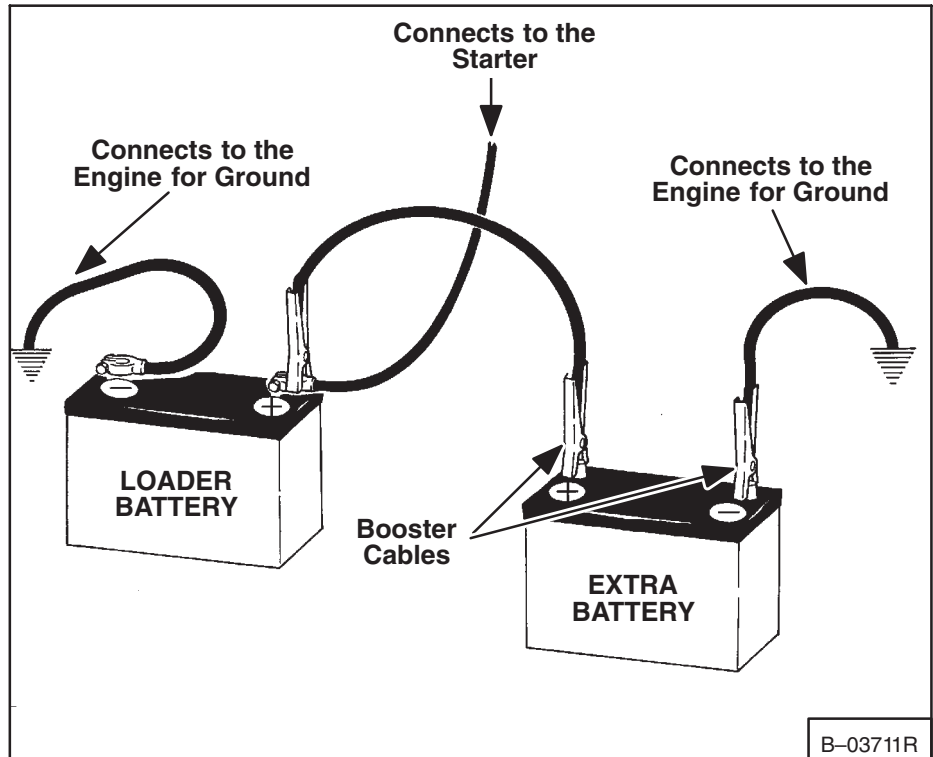

Fig. 1-35 Connecting Booster Cables
5. Connect the end of the first cable to the positive terminal (+) of the booster battery. Connect the other end of the same cable to the positive terminal (+) of the loader battery (Fig. 1-35).